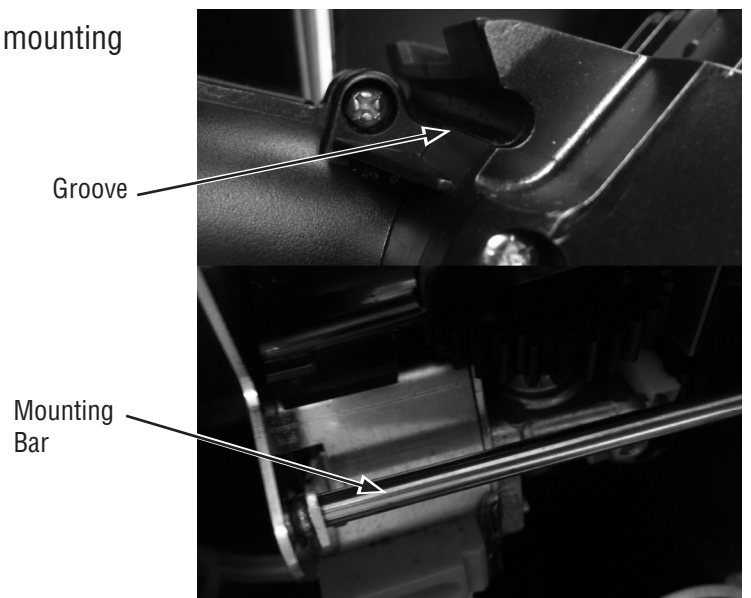

Figure 2
4. Place groove on lower front of group head over mounting bar on espresso drive as shown in Figure 2.